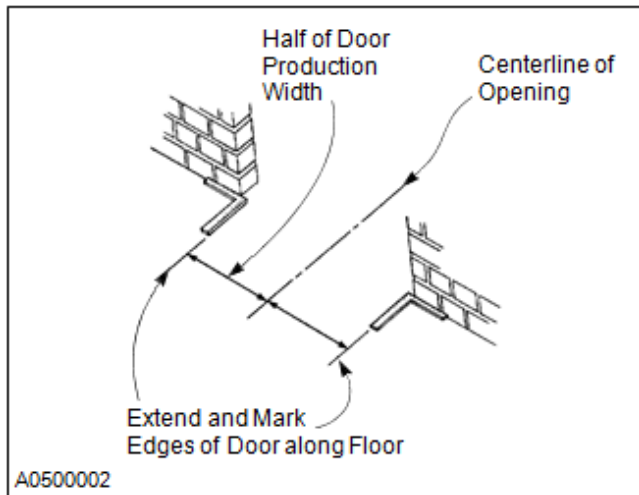

Figure 5
2. Using the centerline as a reference point, lay out and mark half of the door's production width along the floor. (See Figure 5)